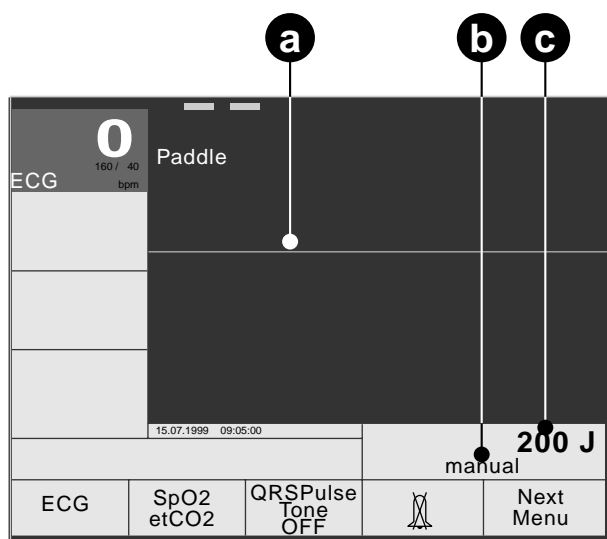

Figure 4-2. Power-up screen (paddles connected)
- Check that the selected energy is displayed (**c**, Figure 4-2).